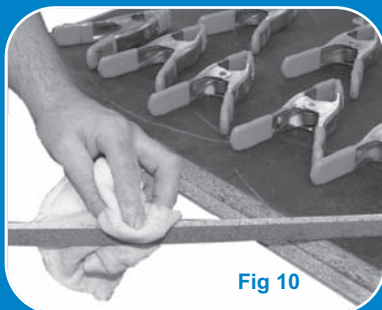

Fig 10
3. Thoroughly clean the edge of the Earthstone worksurface (avoiding the chipboard) and the reverse of the edging strip using industrial denatured alcohol and a lint-free bleached white cloth. Allow to evaporate dry (fig 10).